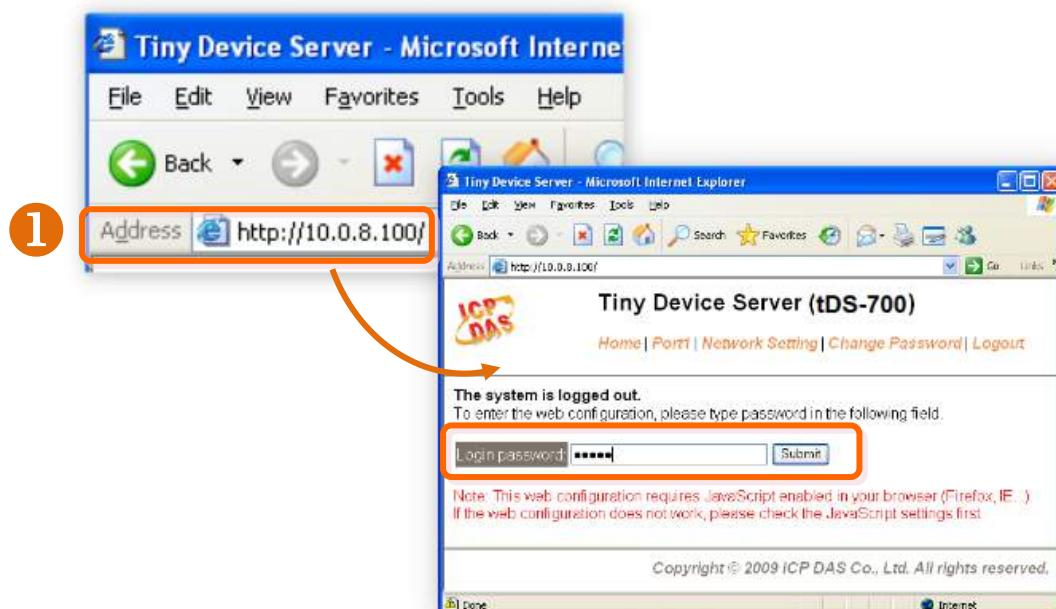

Figure 5-3
- (Refer to **Figures 5-3 to 5-5** for illustrations of how to perform the above steps.)